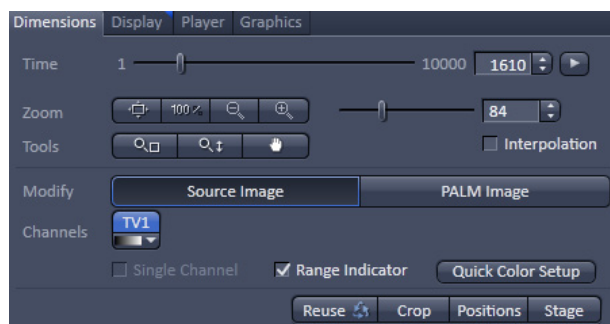

Fig. 49 Dimensions view control tab for a PALM image
- The set up should be such that, once you found your cells, you have a regime where you bring molecules to blink. This is done by balancing the laser powers of the activating (low power) and imaging (high powers) lasers (Fig. 49).
- In the **Dimensions** view control tab check the Range Indicator box (Fig. 49).